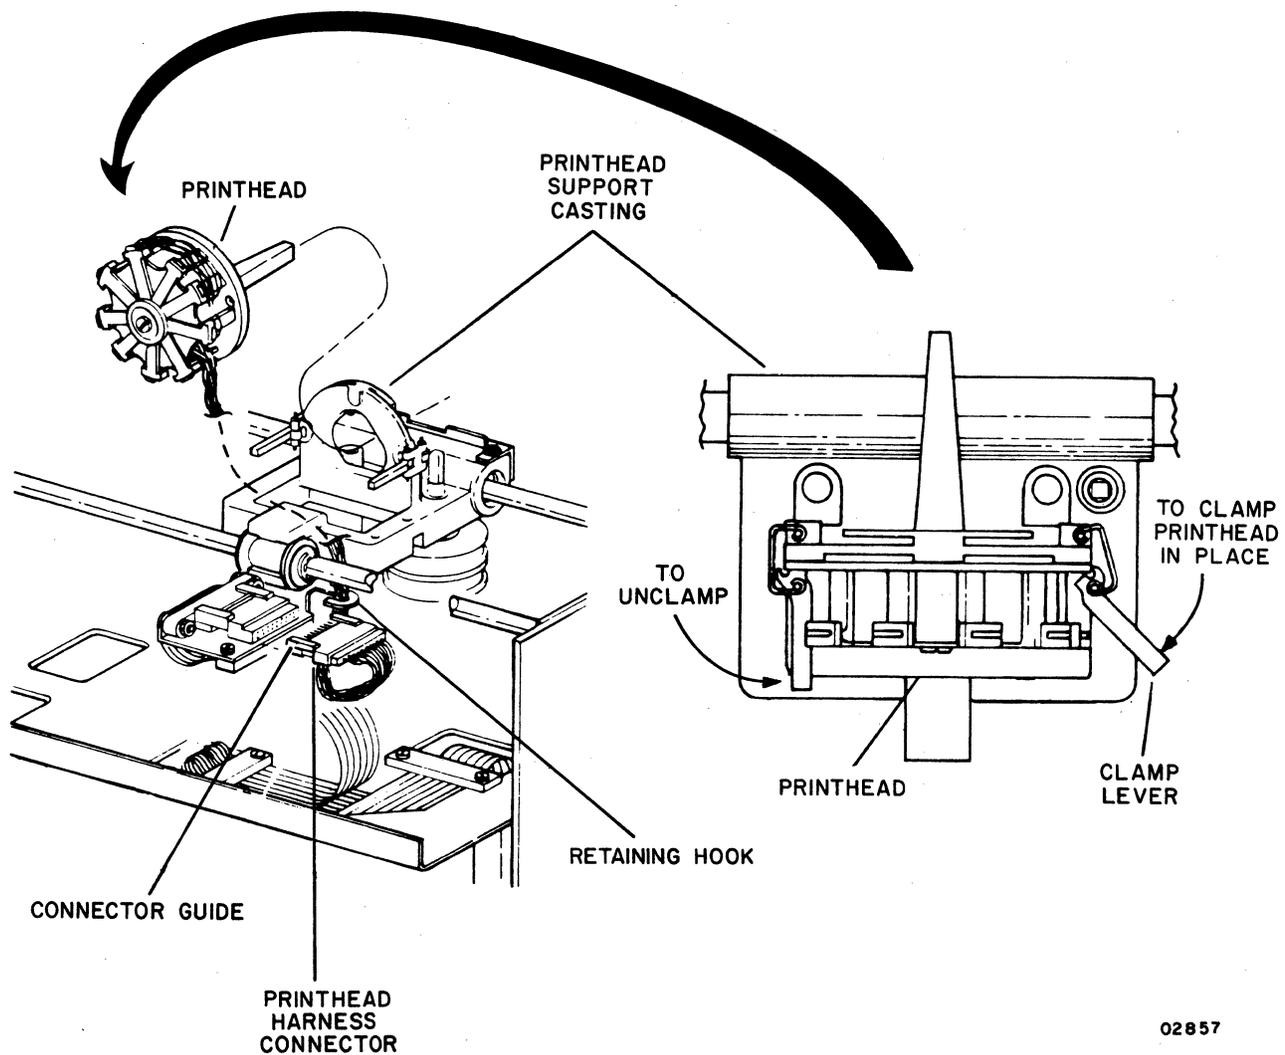

Figure C2-10. Printhead Replacement
- 6) Remove printhead harness from retaining hook located under the printhead support casting (figure C2-10).
- 9) While holding the printhead against the mounting surface of the support casting with one hand, clamp it in place with the two clamping levers (figure C2-10).
- 10) Route the printhead harness and connector as shown in figure C2-10 and plug the printhead harness connector into the printhead flat cable connector. Note that the printhead harness connector guides should be on top when making connection. Also ensure that the printhead harness has been placed behind the retaining hook.